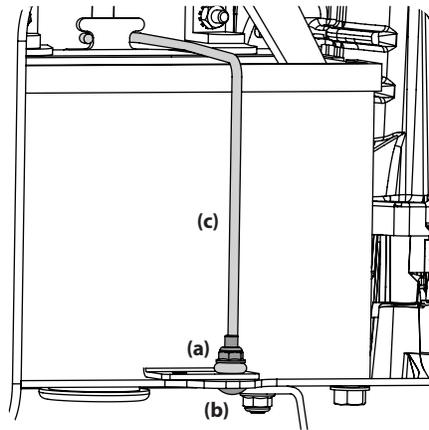

Figure 4-5
- Remove the flange lock nut (a) and carriage screw (b) holding the battery hold-down bracket (c) in place. See Figure 4-5.